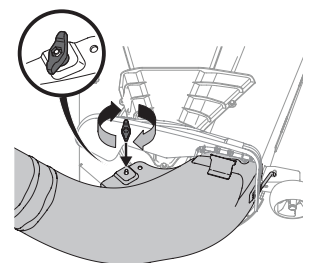

Figure 23
- Secure the boot to the cutting deck using a wing knob (720-04122) from hardware pack 689-01419. Refer to Figure 23.